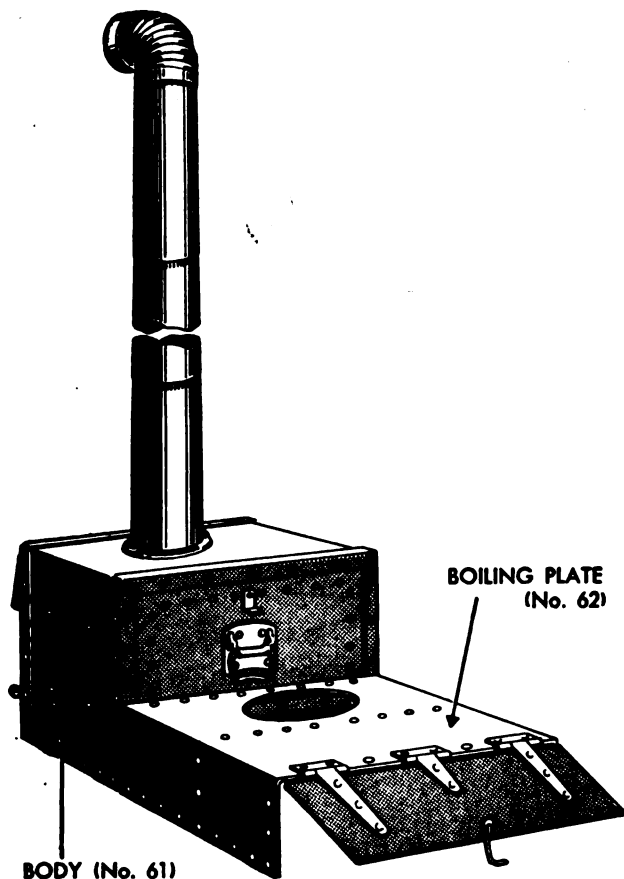

Figure 62. Range, Army field, No. 2 (65-C-1070) (complete with equipment, stock No. 65-C-1065).
a. Army field range No. 2 (stock No. 65-C-1070) is a wood-burning range, designed to cook for approximately 55 men; it consists of an oven (No. 61) and a boiling plate (No. 62). (See fig. 62.) The Alamo attachments used with field range No. 1 are not used with field range No. 2.